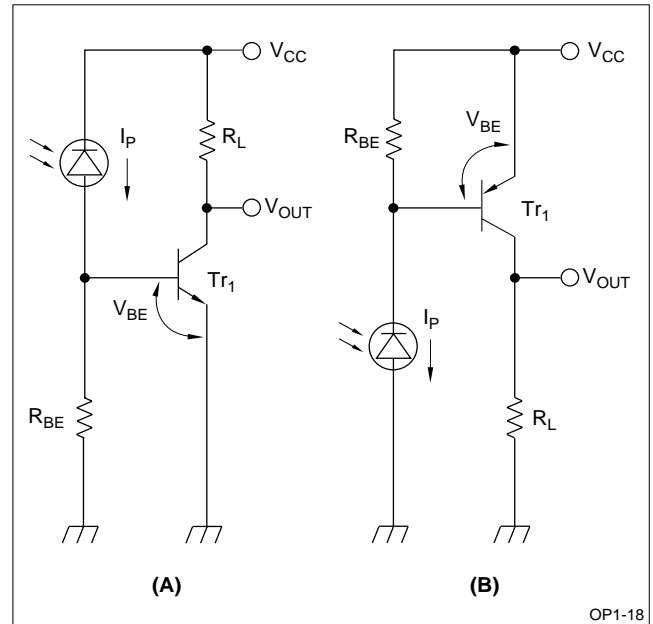

Figure 3. Photocurrent Amplifier Circuit using Transistor
Figures 3 and 4 show photocurrent amplifiers using transistors.
The circuit shown in Figure 3 are most basic combinations of a photodiode and an amplifying transistor. In the arrangement of Figure 3 (A), the photocurrent produced by the photodiode causes the transistor (Tr_1) to decrease its output (V_{OUT}) from high to low. In the arrangement of Figure 3 (B), the photocurrent causes the V_{OUT} to increase from low to high. Resistor R_{BE} in the circuit is effective for suppressing the influence of dark current (I_d) and is chosen to meet the following conditions: